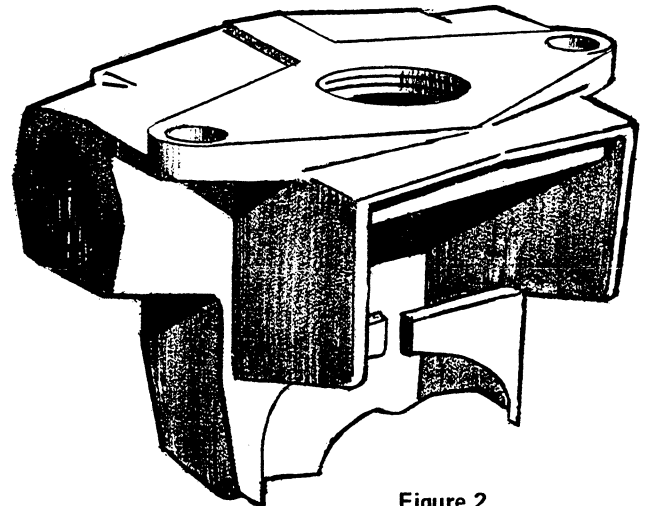
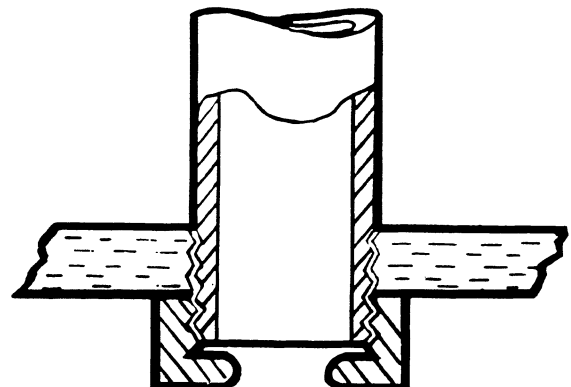

Figure 2.
Figure 3.
1. Mount the receptacle housing of the power hook assembly. For attachment to the ceiling, use the mounting lugs adjacent to the two through-feed hubs. (See Figure 2.) For pendant mounting use conduit and bushing. (See Figure 3.) Plug unused hubs with pipe plugs provided.